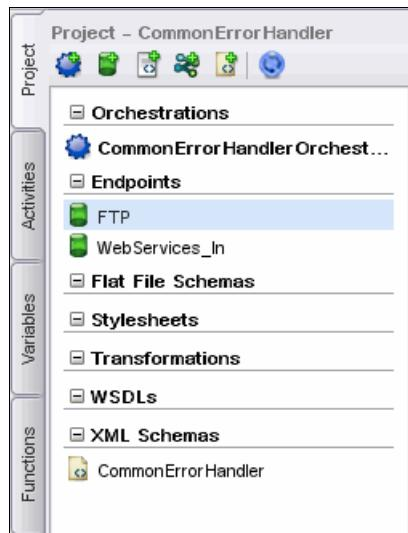

Figure 7-10 Select the FTP endpoint in the Project tab to drag to the steps
- a. Drag the **FTP Endpoint** from the Project tab, Figure 7-10 on page 301, to the Steps panel to add a step with the name of the endpoint, FTP.